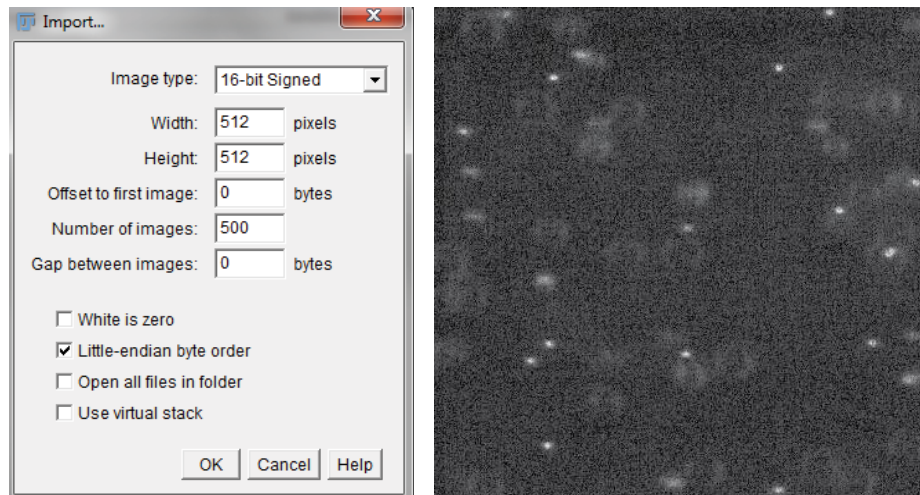

Figure 10. Import parameters.
- 1) Before the plugin can be started you must open an image sequence or a movie in ImageJ. For opening your saved movie use the **File\Import\Raw**. You should input following parameters as indicated in Figure 10. *(Check your lab notes for number of frames and binning size)*. Upon file import you should obtain video sequence of your moving beads.